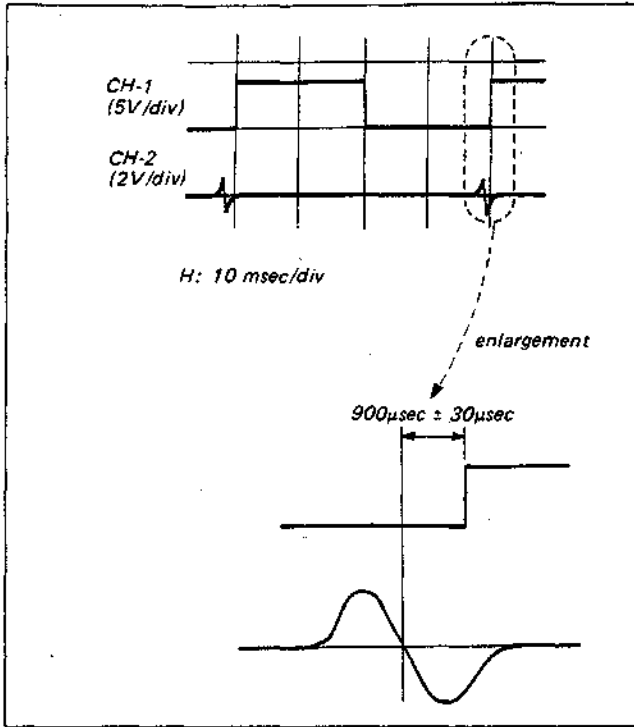
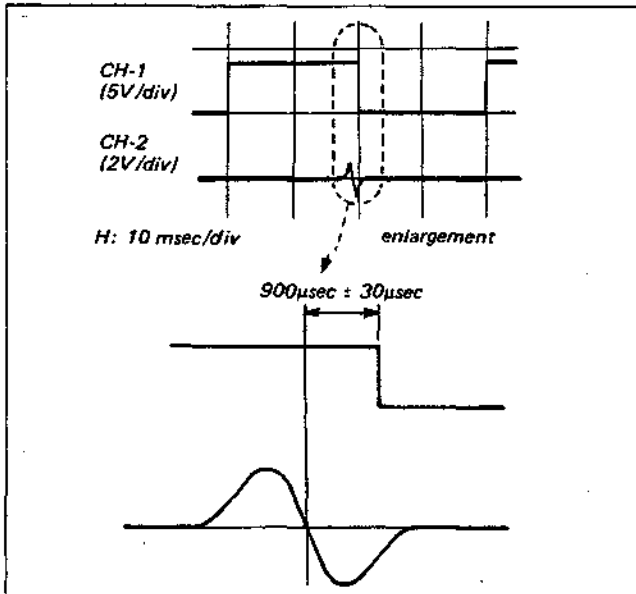

Fig. 5-7. RF switching position adjustment (1)
Fig. 5-8. RF switching position adjustment (2)
- i) Adjust to $900\mu\text{sec} \pm 30\mu\text{sec}$ with RV304 (See Fig. 5-7.)
- ii) Change connection of CH-2 only to Pin ③ of IC301.
- iii) Adjust to $900\mu\text{sec} \pm 30\mu\text{sec}$ with RV305 (See Fig. 5-8.)